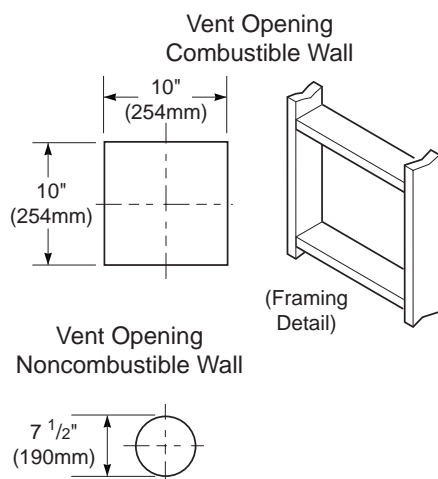
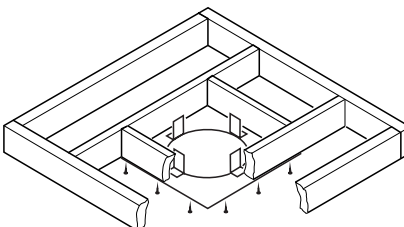

Figure 13 - Vent Opening Requirements
Figure 23 - Installing Firestop
- Attach vent pipe assembly to the fireplace. Set fireplace in front of it's permanent location to insure minimum clearances. Mark the wall for a 10" square hole (for noncombustible material such as masonry block or concrete, a 7 1/2" diameter hole is acceptable). See Figure 13. The center of the hole should line up with the centerline of the horizontal rigid vent pipe. Cut a 10"x10" (254mm x 254mm) square hole through combustible exterior wall (7 1/2" [190mm] diameter hole if noncombustible). Frame as necessary (see Figure 13).
1. Cut a 10" square hole in the ceiling using the locating hole as a center point. The opening should be framed to 10"x10" (254mm x 254mm) inside dimensions, as shown in Figure 13 on page 9 using framing lumber the same size as the ceiling joists. If the area above the ceiling is an insulated ceiling or a room, nail firestop from the top side. This prevents loose insulation from falling into the required clearance space. Otherwise, install firestop below the framed hole. The firestop should be installed with no less than three nails per side (see Figure 23).
3. Cut a hole in the roof using the locating hole as a center point. (Cover any exposed open vent pipes before cutting hole in roof.) The 10"x10" hole must be measured on the horizontal; actual length may be larger depending on the pitch of the roof. There must be a 1" clearance from the vent pipe to combustible materials. Frame the opening as shown in Figure 13 on page 9.